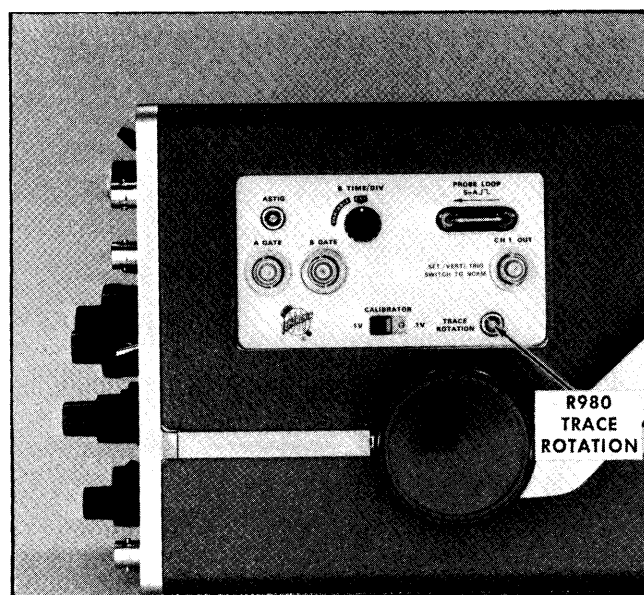

Fig. 5-6. Location of TRACE ROTATION adjustment (side panel).
- ADJUST—TRACE ROTATION adjustment, R980 (see Fig. 5-6), so the trace is parallel to the horizontal graticule lines.